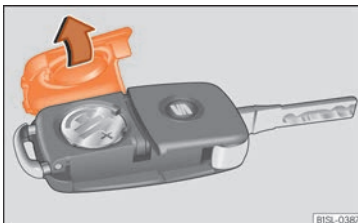

Fig. 87 Vehicle key: battery compartment cover.
- Remove the cover from the back of the vehicle key » Fig. 87 in the direction of the arrow » ⓘ.
- Fit the cover as shown » Fig. 87, pressing it onto the vehicle key casing in the opposite direction to that shown by the arrow until it clicks into place.